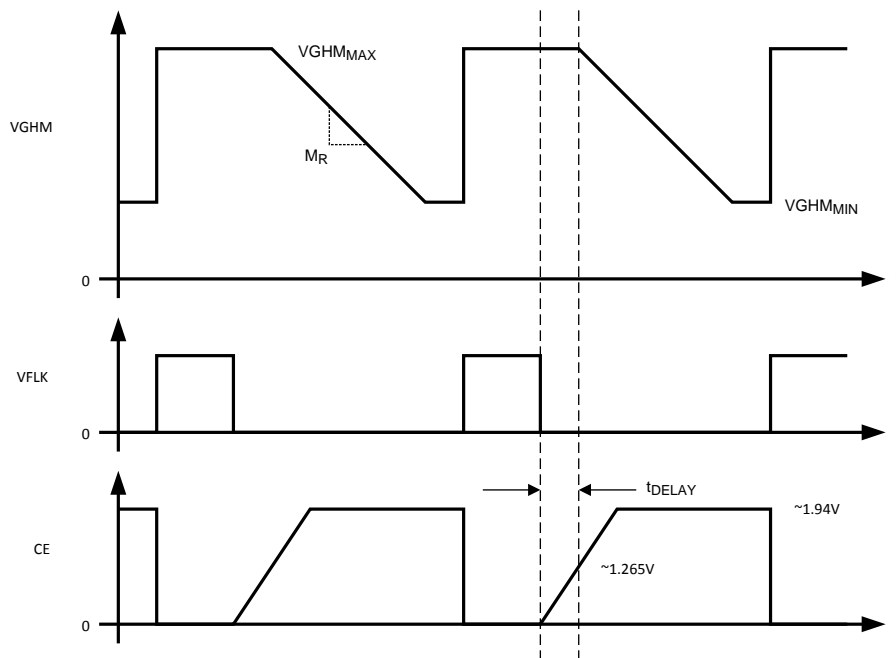
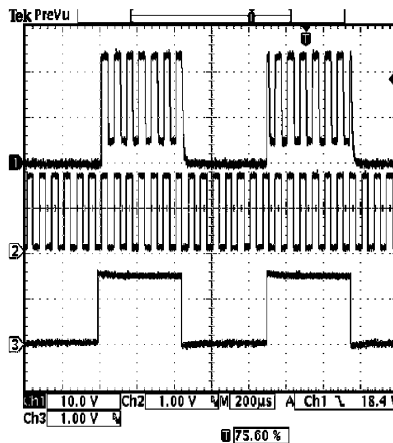

Figure 45.
Figure 46. Waveform
The Gate Pulse Modulation (GPM) block is designed to provide a modulated voltage to the gate driver circuitry of a TFT LCD display. Operation is best understood by referring to the GPM block diagram in the Block Diagrams section, the drawing in Figure 45 and the transient waveforms in Figure 46 and Figure 47.
When VDPM is high, typical waveforms for the GPM block can be seen in Figure 45. The pin VGH is typically driven by a 2x or 3x charge pump. In most cases, the 2x or 3x charge pump is a discrete solution driven from the SW pin and the output of the boost switching regulator. When VFLK is high, the PMOS switch P2 is turned on and the PMOS switch P3 is turned off. With P2 on, the VGHM pin is pulled to the same voltage applied to the VGH pin. This provides a high gate drive voltage, V_{GHMAX} , and can source current to the gate drive circuitry. When VFLK is high, NMOS switch N3 is on which discharges the capacitor CE.
When the voltage on CE reaches about 1.265V and the VFLK signal is low, the PMOS switch P2 will turn off and the PMOS switch P3 will turn on connecting resistor R3 to the VGHM pin through P3. This will discharge the voltage at VGHM at some rate determined by R3 creating a slope, M_R , as shown in Figure 45. The VGHM pin is no longer a current source, it is now sinking current from the gate drive circuitry.
Figure 46 and Figure 47 give typical transient waveforms for the GPM block. Waveform (1) is the VGHM pin, (2) is the VFLK and (3) is the VDPM. The output of the boost switching regulator is operating at 8.5V and there is a 3x discrete charge pump (~23.5V) supplying the VGH pin. In Figure 46 and Figure 47, the VGHM pin is driving a purely capacitive load, 4.7nF. The value of resistor R1 is 15k Ω , R2 is 1.1k Ω and R3 is 750 Ω . In both transient plots, there is no C_E delay capacitor.